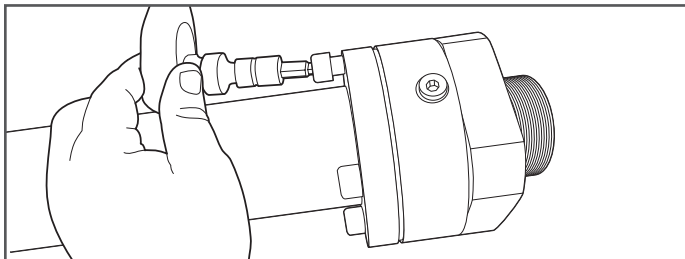

Figure 8-1
1. Loosen the cap screws using a ratchet and the appropriate size hex driver (Figure 8-1).